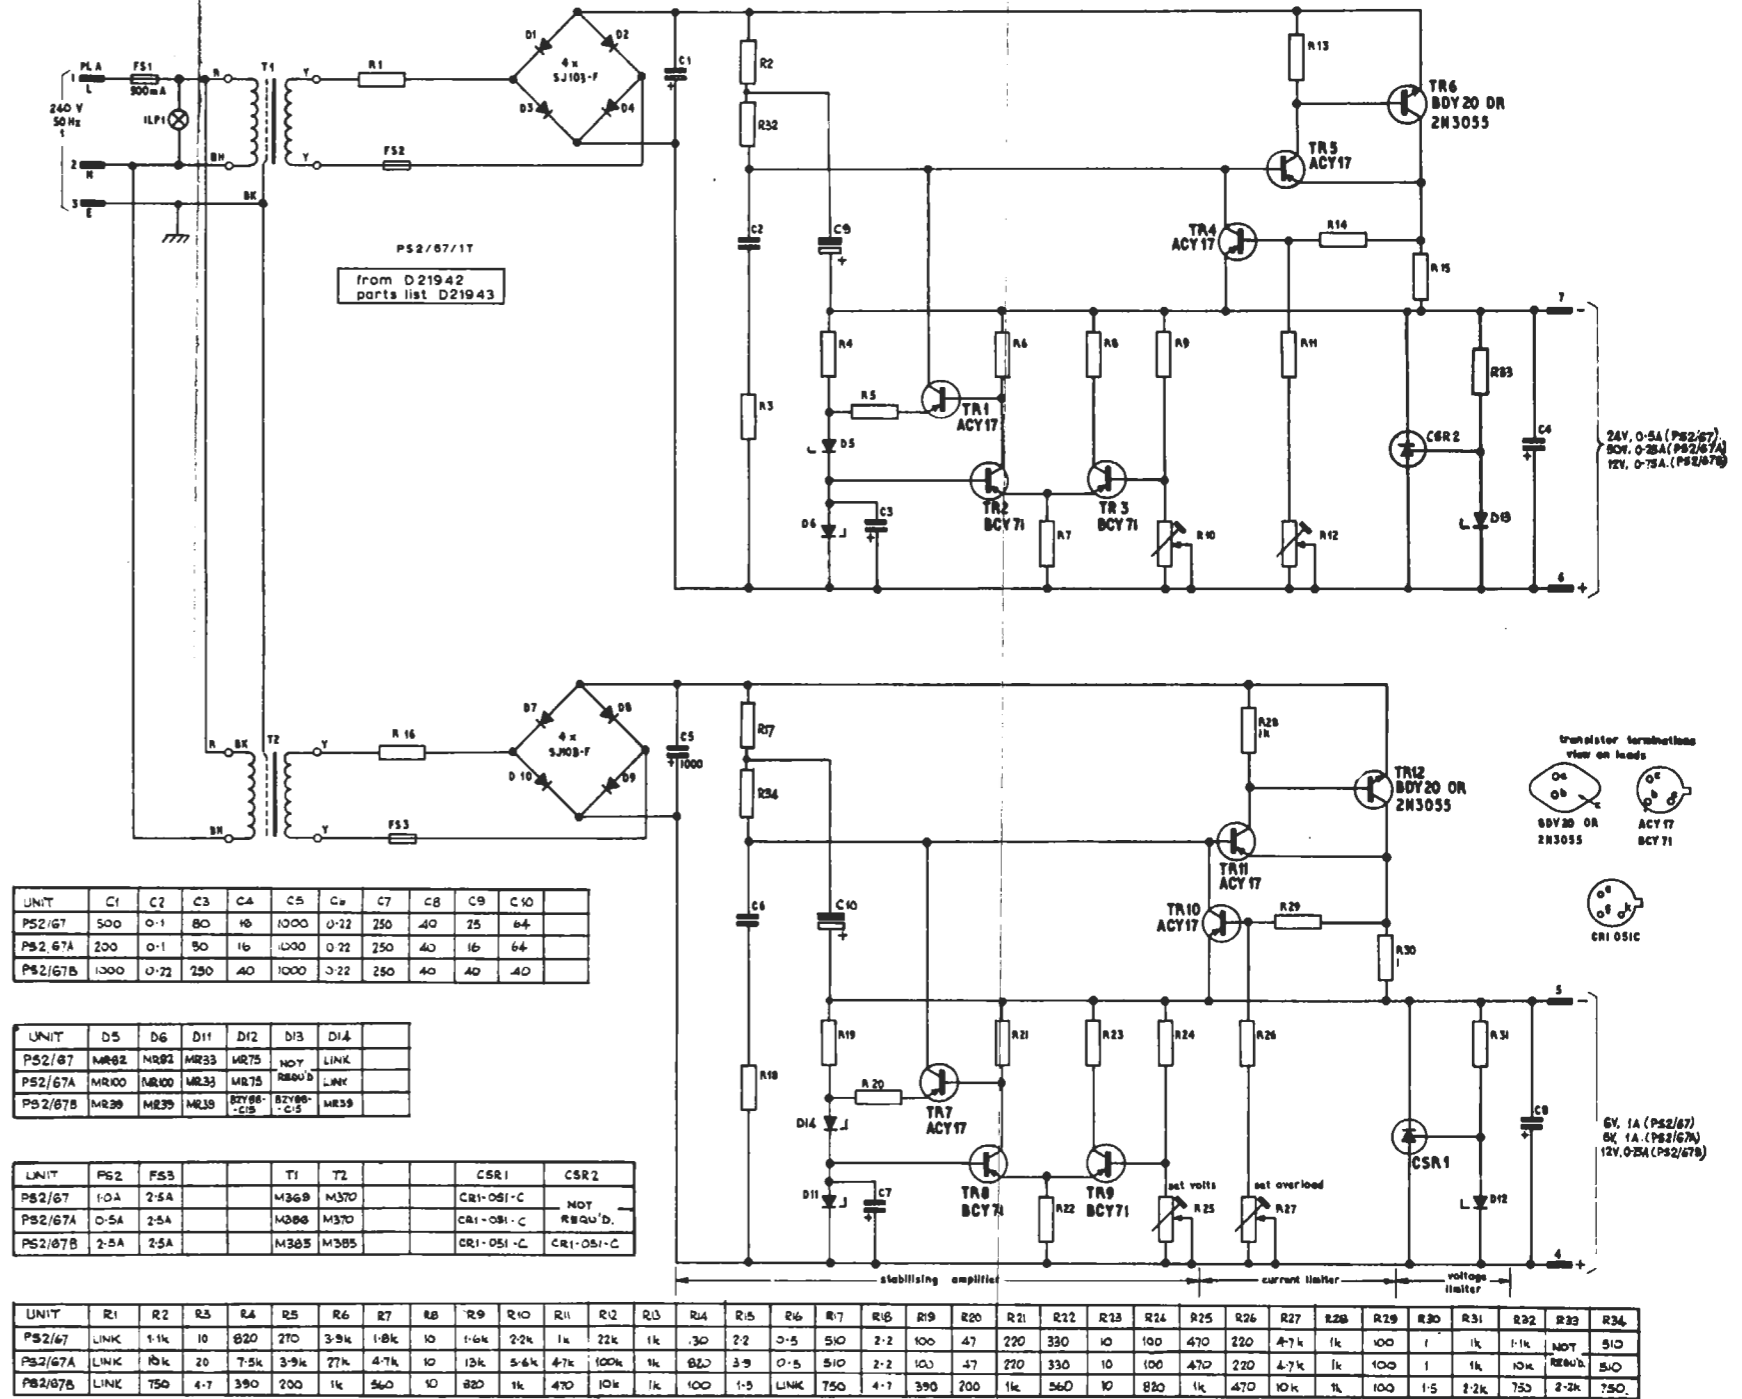

Fig. 1. Circuit of PS2/67 & A & B
**Circuit Description (Fig. 1)**
The two sections of all three units are similar, except for component values and for the omission of the voltage limiter in the sections providing 24-volt and 50-volt supplies. In the following description component numbers in the upper half of Fig. 1 will be used.